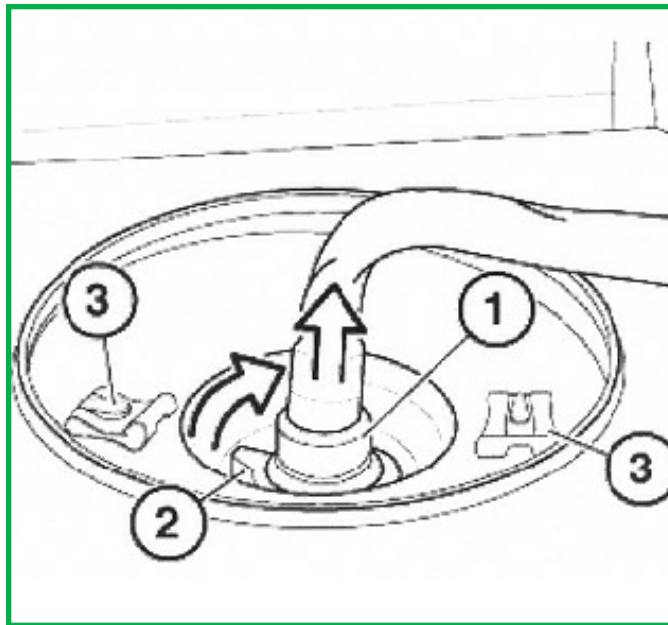

FIGURE 19
6. Disconnect the top of the air spring by pressing quick coupling (1) downwards, press retaining ring (2) together and detach the air line. Remove the retaining clips (3). (Figure 19)